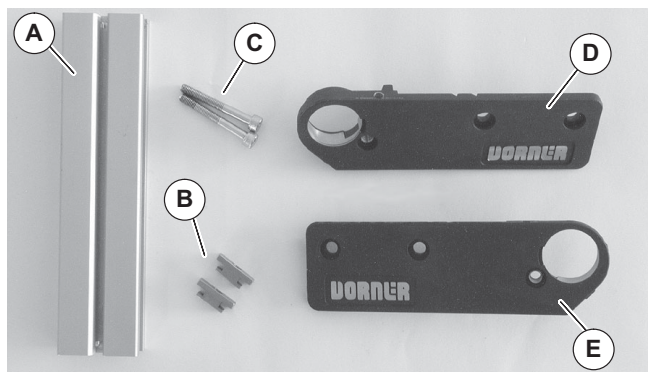

Figure 4
1. Gather components (Figure 4)
3. Remove bearings from conveyor headplates and install them into new headplates (Figure 4, item D & E). See “Bearing Removal and Replacement” in the “2200 Series End Drive Conveyors” manual, part number 851–452.